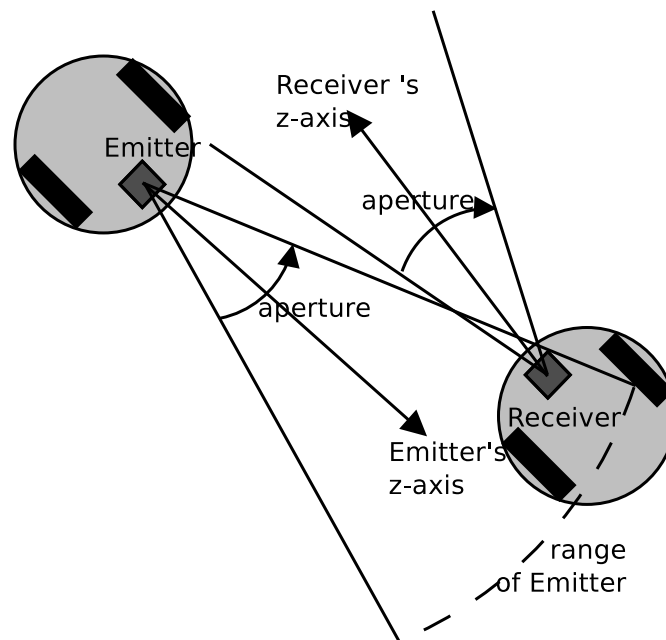

Figure 3.14: Illustration of aperture and range for "infra-red" Emitter/Receiver
- `aperture`: opening angle of the emission cone (in radians); for "infra-red" only. The cone's apex is located at the origin ($[0\ 0\ 0]$) of the emitter's coordinate system and the cone's axis coincides with the z-axis of the emitter coordinate system. An "infra-red" emitter can only send data to receivers currently located within its emission cone. An `aperture` of -1 (the default) is considered to be infinite, meaning that the emitted signals are omni-directional. For "radio" and "serial" emitters, this field is ignored. See figure 3.14 for an illustration of `range` and `aperture`.